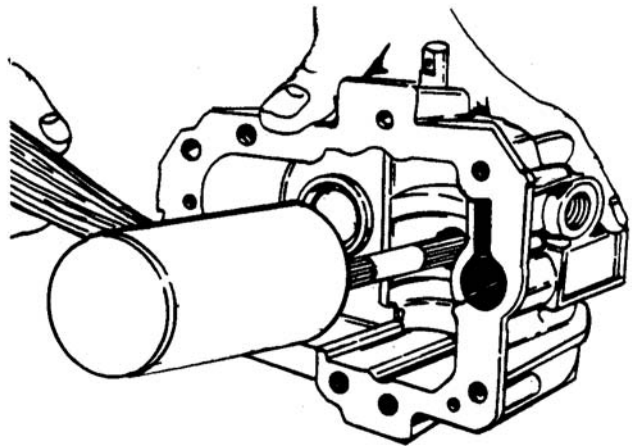

Figure 6-27. Removal of Pump Shaft
d. Tap the end of the pump shaft with a soft hammer lightly to slide it out from the housing. See Figure 6-27.